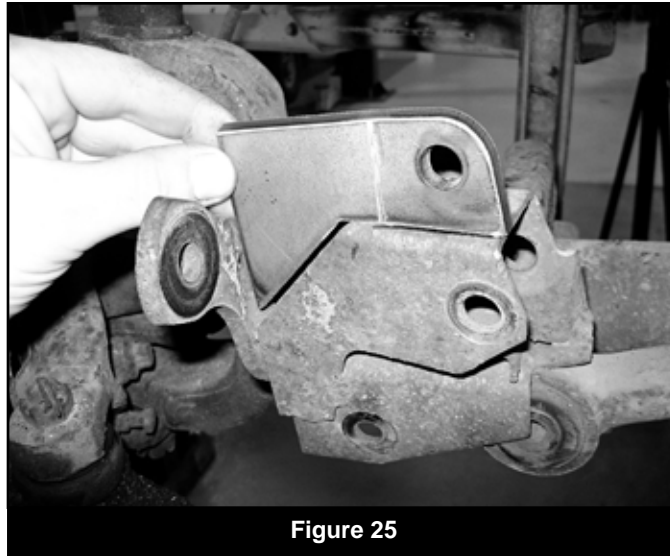

Figure 25
63. Position the new provided stabilizer mount (01565) on the top of the original mount so that the hole is to the driver's side and the front surface is aligned to the line marked on the top of the OE bracket (Fig 25). The stabilizer will butt up to the passenger's side sway bar link mount.